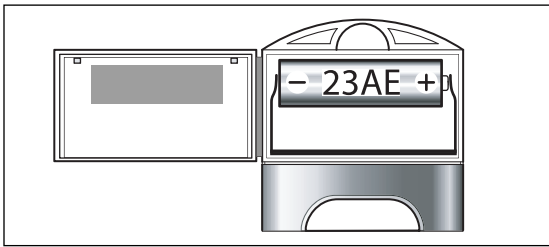

Fig. 04
(type 23AE, see Fig. 04)
1. Use 12-volt alkaline battery (type 23AE, see Fig. 04).